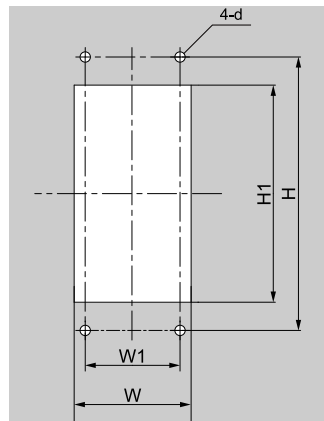

Figure 2.15 Panel Cut-Out Dimensions to Attach Inside Control Panel
1. Use the dimensions in Figure 2.15 and Table 2.6 to cut an opening in the control panel for the keypad.